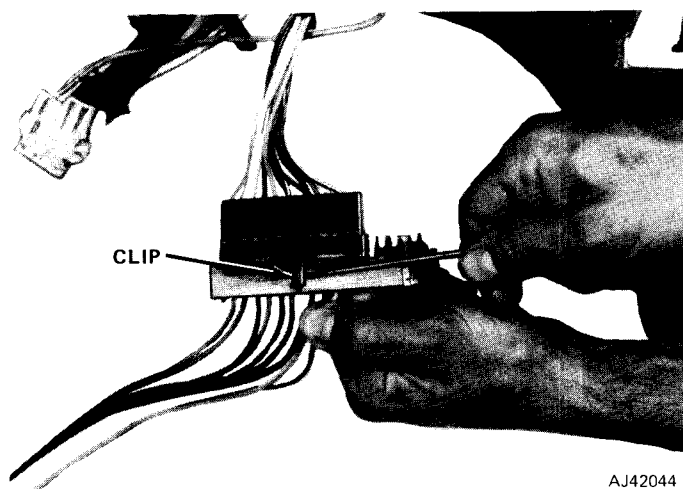

Fig. 11-7 Disconnecting Signal Switch Harness
(8) Push hazard warning switch knob in, unthread knob, and remove from column.
(9) Remove turn signal lever attaching screw and remove lever. Remove column-to-instrument panel bracket.
(10) Unhook turn signal switch wire harness connector from bracket at lower end of column (under instrument panel). Unhook plastic lock tab and disconnect signal switch harness from instrument panel harness (fig. 11-7). Wrap tape around harness connector to prevent snagging during removal.